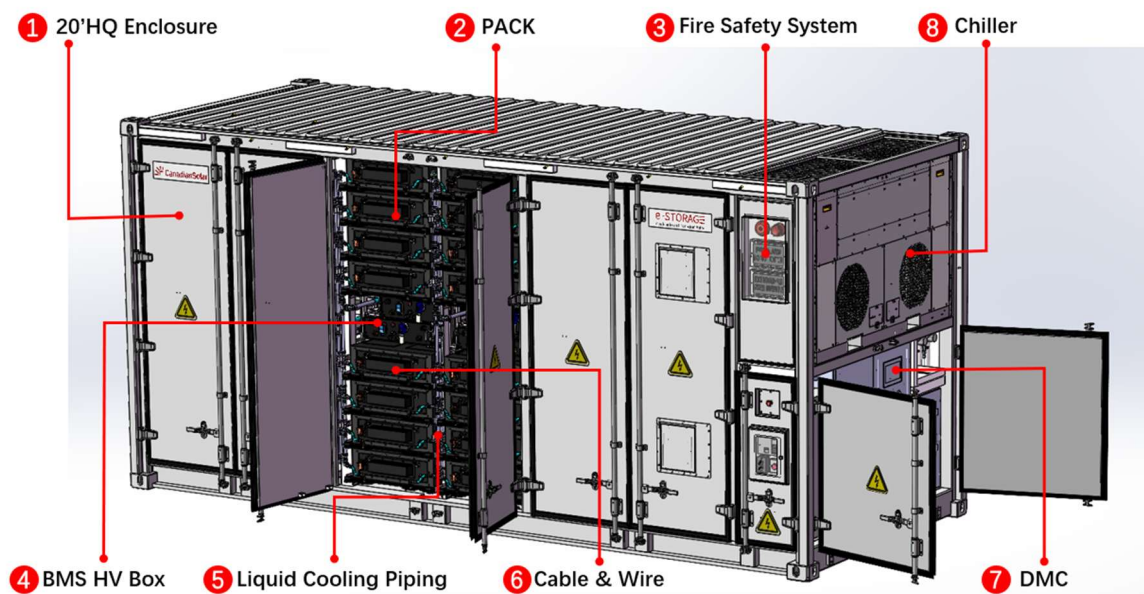

Figure 1: Layout and features of the SolBank 3.0
The SolBank 3.0 System integrates all power electronics, controls, and safety features required to support the DC side of a battery energy storage system. An overview of the SolBank 3.0 layout and key features is shown in Figure 1 and further described in Table 2.
Location: 480VAC (400VAC (EU)). Aux power feed is routed into the bottom of the SolBank Distribution Management Cabinet shown in Figure 1. 480VAC supplies Chiller loads contained in the Chiller cabinet as well as a 480VAC/277VAC step-down transformer, which in turn supplies other loads through the SolBank.